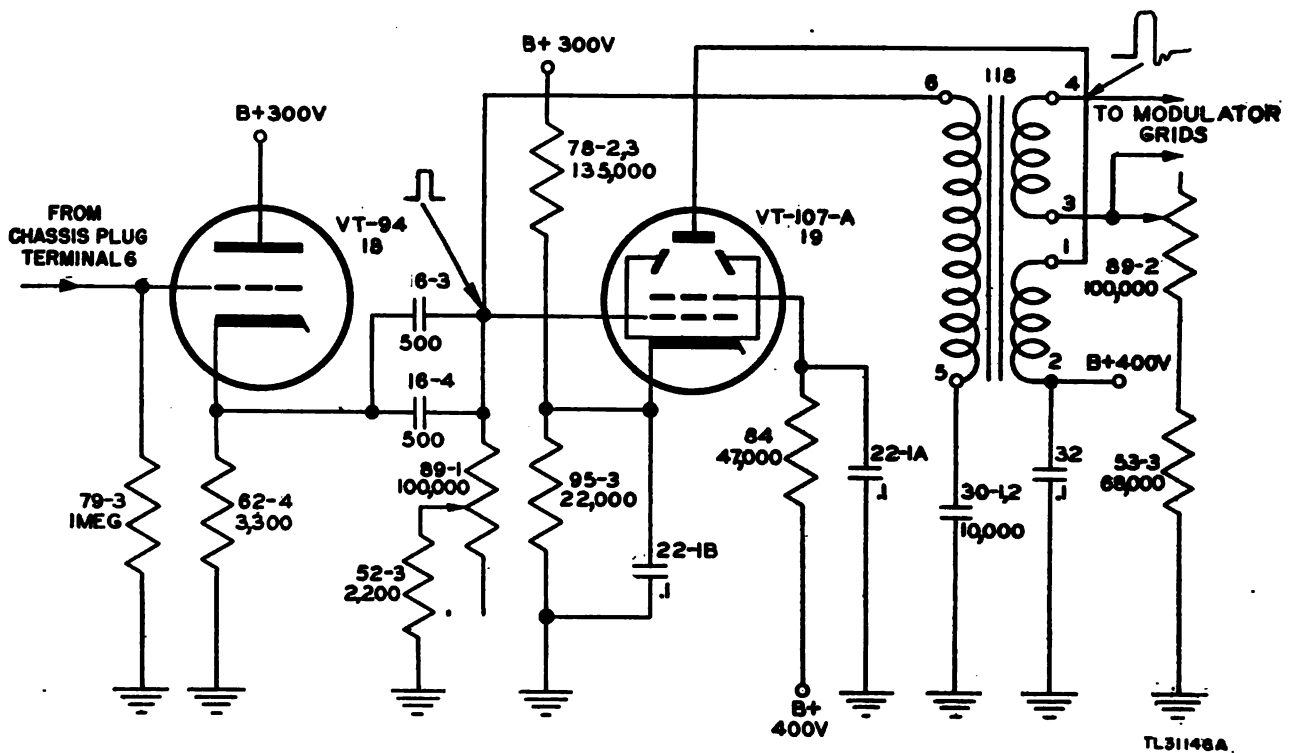

Figure 78. Transmitter, blocking oscillator, partial schematic.
c. The output from the pulse amplifier is fed to the grid of a conventional cathode follower (tube 18) (fig. 78), through capacitor 19-3 and terminal 6 of the chassis plug. The output from the cathode follower is coupled to the blocking oscillator tube (19).
The blocking oscillator is triggered by the positive pulse from the cathode follower. The cathode of the blocking oscillator has a fixed bias supplied by a divider network consisting of resistor 95-3, 78-2, and 78-3, connected between the 300-volt supply and ground (fig. 78). This bias is approximately 40 volts and is sufficient to cut off the tube when a trigger pulse is not present on the grid. For a detailed discussion of the operation of a blocking oscillator see paragraph 12. The width of the pulse produced by the blocking oscillator is determined by the constants of the transformer and the time constant in the grid circuit. Therefore, capacitors 30-1 and 30-2, and resistors 52-3 and 89-1 also determine the width of the pulse produced. Resistor 89-1 is variable making it possible to vary the width of the pulse over a range of approximately 4 to 10 microseconds. Capacitors 22-1B, 22-1A, and 32 are used to filter the circuit. The output pulse of the blocking oscillator appears across the winding of transformer 118 which terminates at 3 and 4. This is a positive pulse approxi-